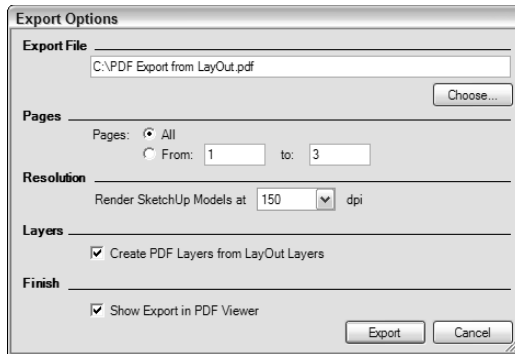

Figure 15-14:
3. Click the Save button (in Windows) to open the PDF Export Options dialog box (see Figure 15-14); click the Options button if you're on a Mac.